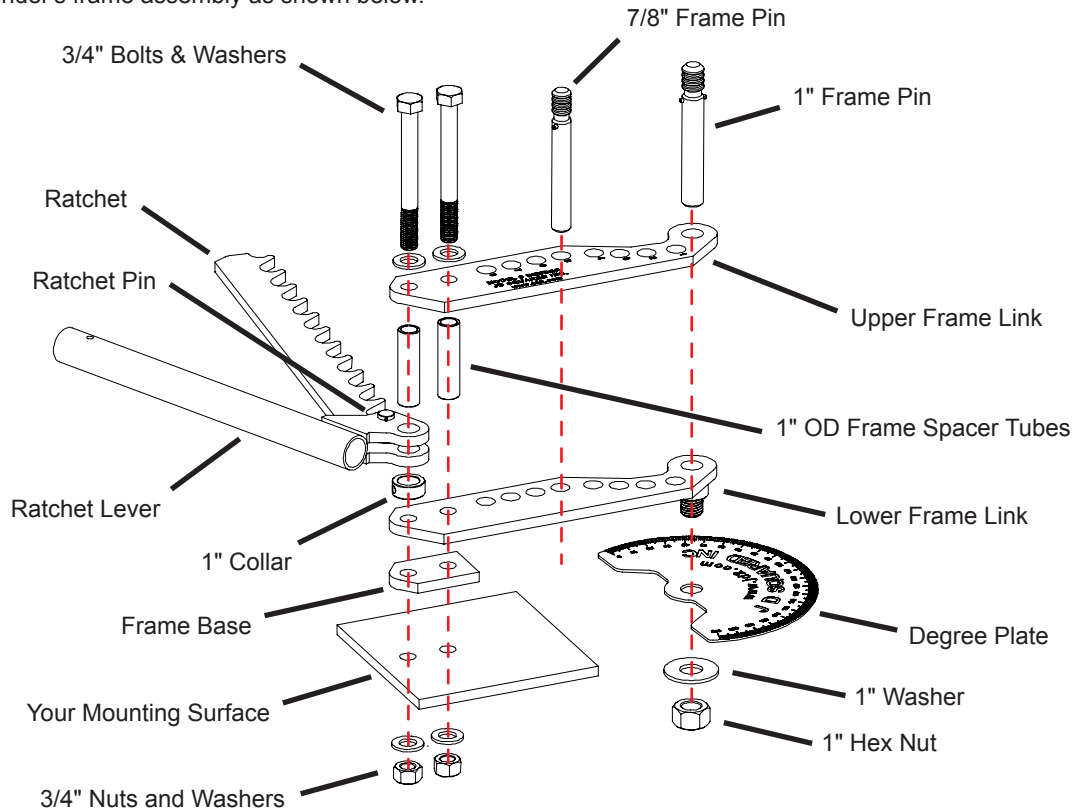

Figure 1 - Exploded view of the Frame Assembly with Degree Plate
- C) Assemble the Ratchet and Ratchet Lever as shown in figures 1,2 & 4 using the 3/4" pin and two 1/8" spring pins. For hydraulic adapter installation see page 3.